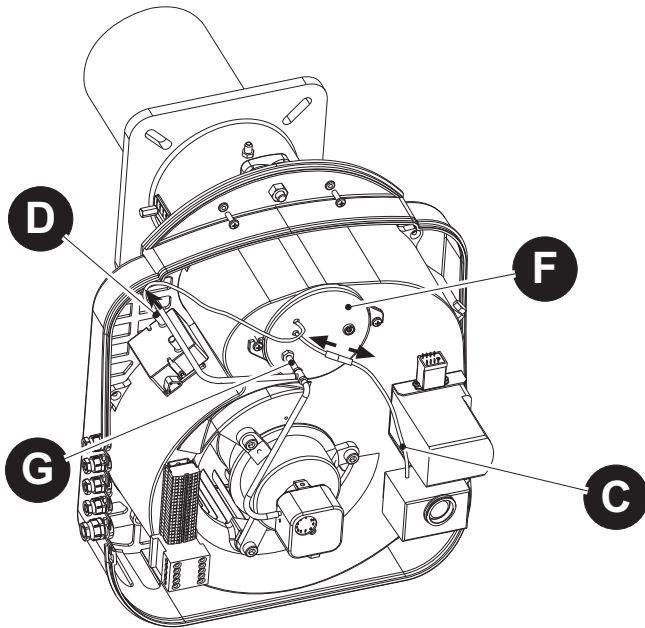

fig. 2c
- 2) Detach the connections "D" and "C" where indicated and the respective cable glands on the cover "F". Detach the tube "G" from the cover "F" (fig. 2c).
- 5) Insert the burner body on the pin "I" and fix it with the nut "H". Fit the cover "F", reconnecting the connections "D" and "C" (fig. 2c) with the respective cable glands, and secure it with the screws "E" (fig. 2f).
- Undo the electrical connections where indicated in fig 2c on page 5.
- Reconnect the cables and the tube "G" as shown in fig. 2c on page 5.